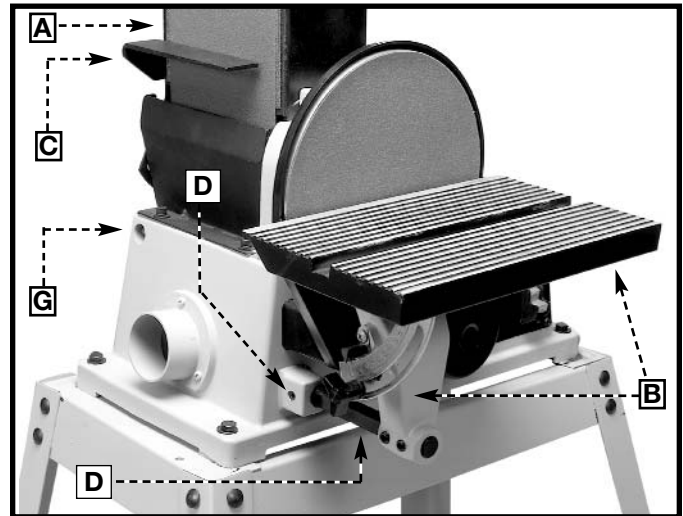
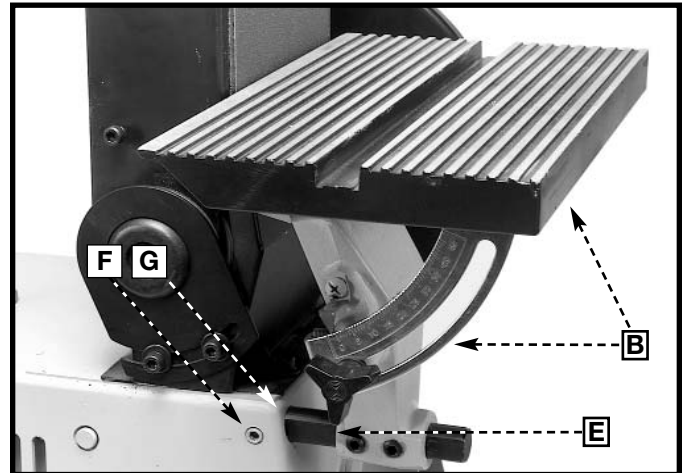

Fig. 30
Fig. 31
To move the table assembly (B) Fig. 30 to the sanding arm (A):
1. Remove the backstop (C) Fig. 30.
2. Loosen the screw (D) Fig. 30 and carefully remove support bar (E) and table assembly (B) from the disc unit.
3. Loosen the set screw (F) Fig. 31. insert the support bar (E) (with the table assembly (B) attached) in the hole (G) Figs. 30 & 31. Tighten the set screw (F).